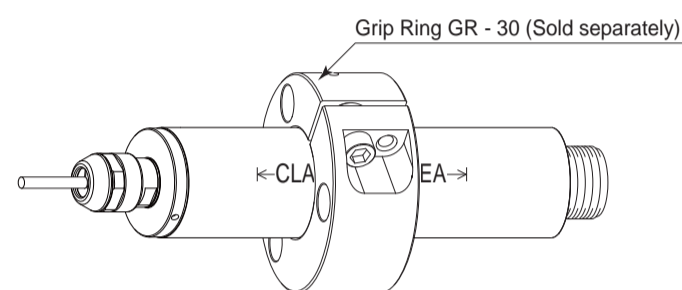

Fig. 9
- * When installing the Spindle, it is recommended to use a "GR - 30 Grip Ring (sold separately (Fig. 9))". If the GR - 30 Grip Ring cannot be used due to the restriction of dimension and space, install as shown in ② below.